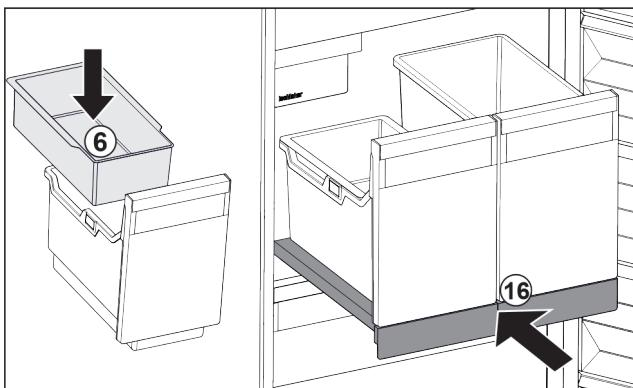

Fig. 101
- Insert hang-on tray *Fig. 101 (6)* for ice cubes.
- Slide in the pull-out board with container (IceTower). *Fig. 101 (16)*